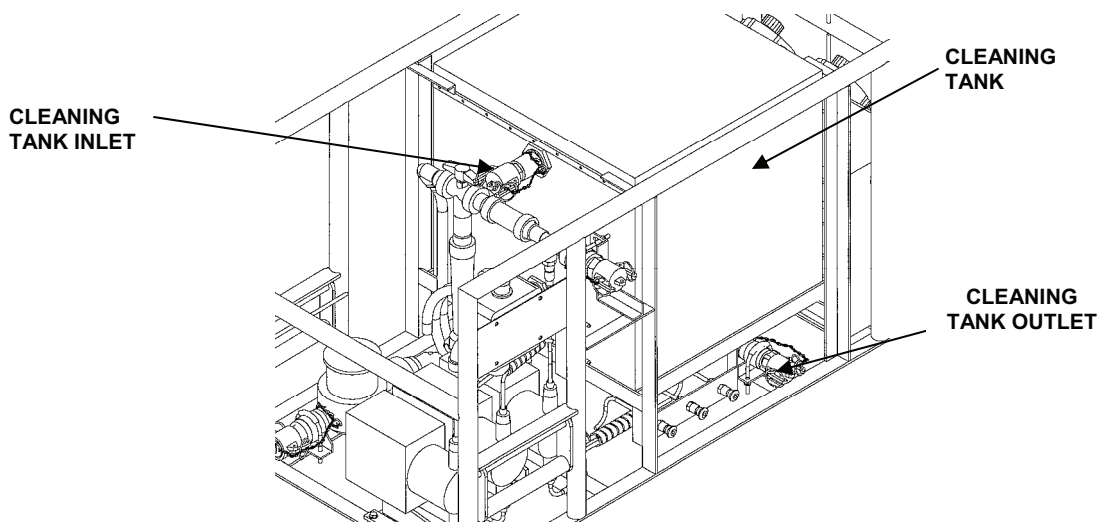

Figure 4. Cleaning Tank Clean Out Connection.
- g. Attach backwash pump suction hose (yellow) to cleaning tank outlet. See Figure 4.
- j. Attach discharge end of UF reject hose (red) to cleaning tank inlet. See Figure 4.